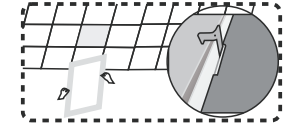

Figure3
Step4: For positioning, place the troffer into the T-bar, ensure the troffer are attached to the ceiling. (Figure3)